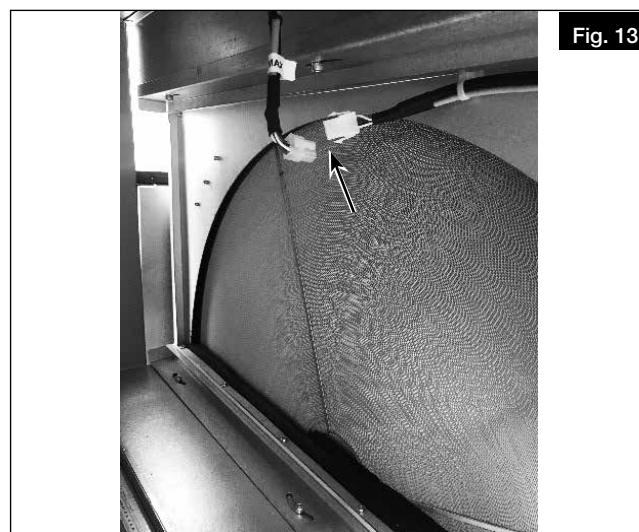

Fig. 13
6. After positioning the rotary heat exchanger, make the electrical connections to the Varimax drive unit (see Fig. 13).